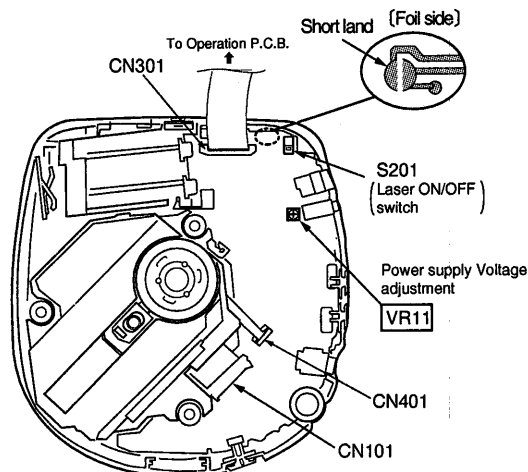

Fig. 1
Short-circuit the lands of the laser ON/OFF switch (S201) by soldering them. It turns “ON” position. (Refer to below **Fig. 1** or printed circuit board and wiring connection diagram for short land location on page 34.)
2. Take care to connect CN101, CN301 and CN401, as shown in **Fig.1**.
4. Adjust **VR11** on the main P.C.B. at $2.70 + 0.02$ V, as shown in **Fig. 1**.